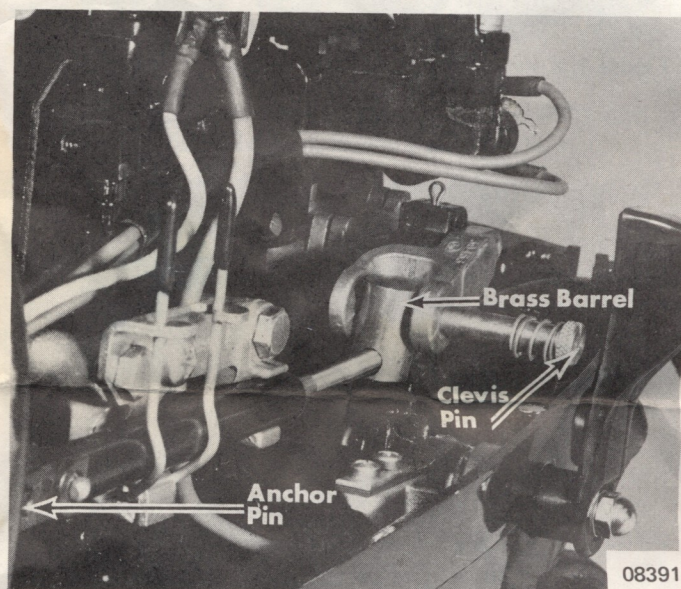

Figure 10. Clevis Pin
4. Position spring loaded clevis pin outward as far as possible. (Figure 10)